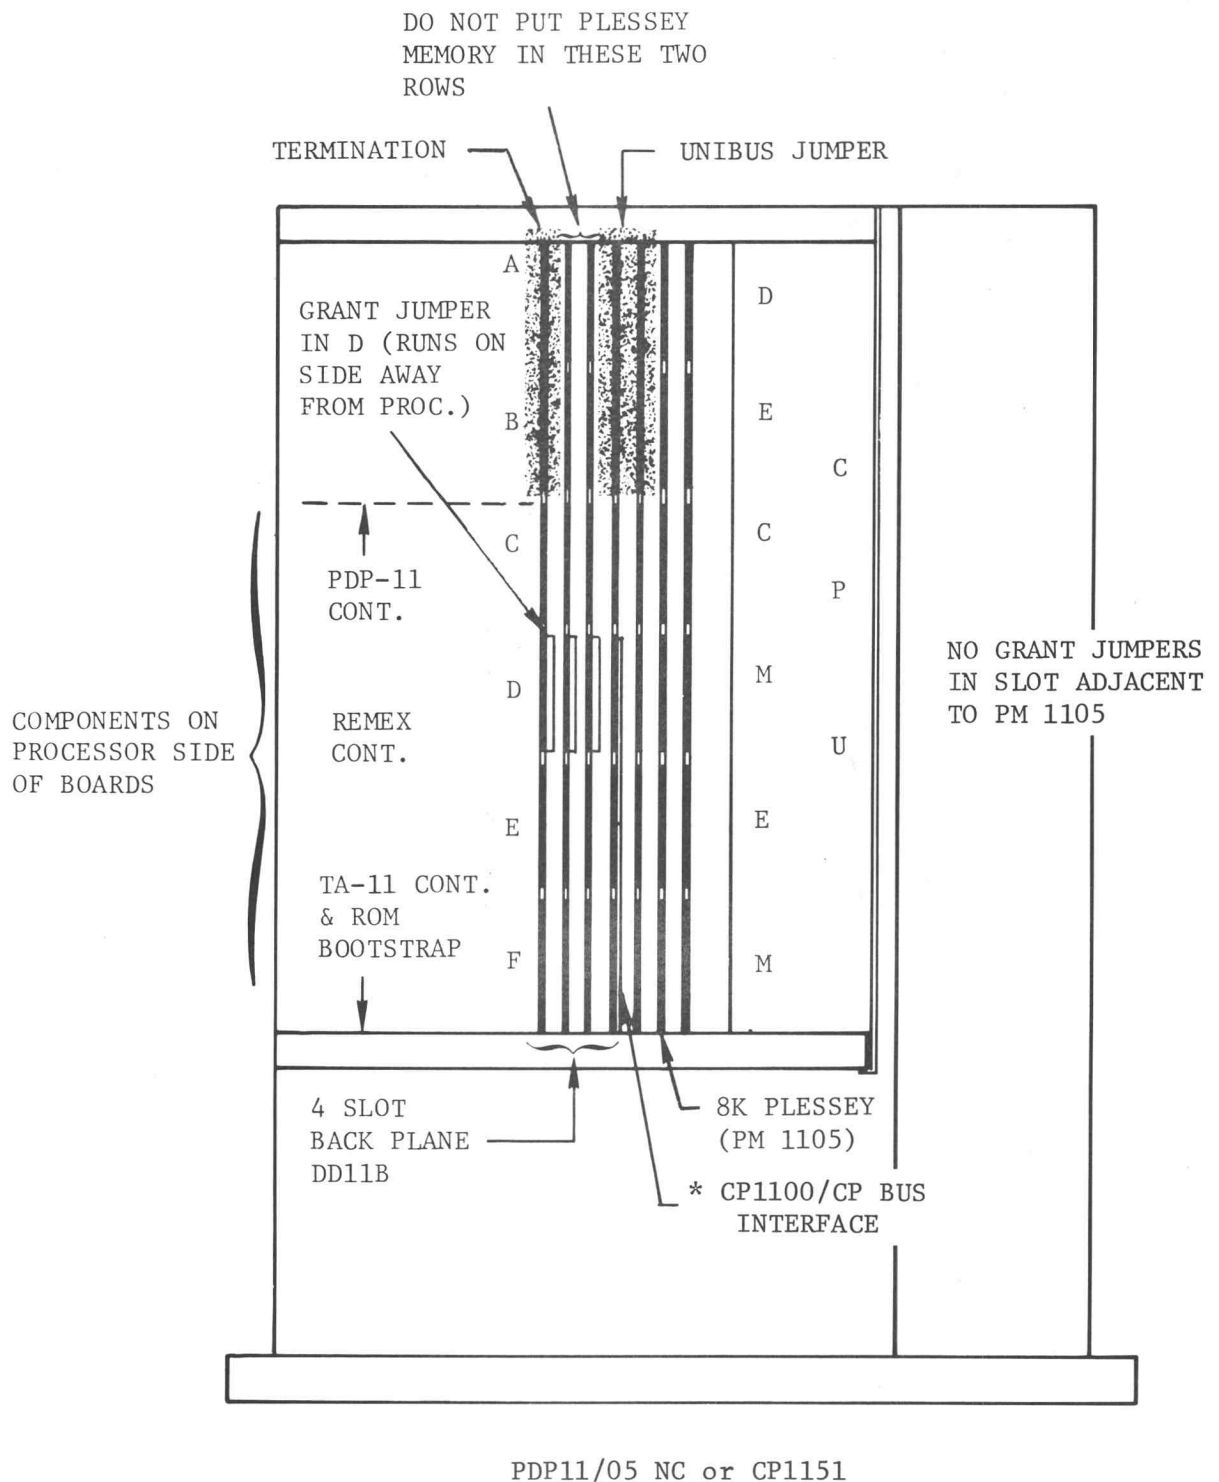

Fig. 2-5. Controller with CP1100/CP Bus Interface Location.
2. Check that a spare (Small Peripheral Controller) slot is available in the CP1100 (or PDP-11) controller bus (see Fig. 2-5).